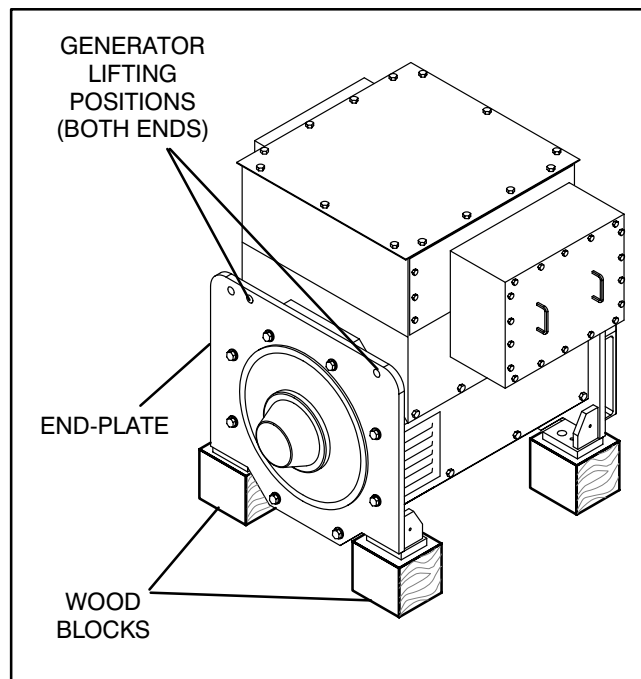

FIGURE 4-11. FRAME 8 LIFTING POSITIONS
7. Attach cables of lifting device to generator lifting points shown in Figure 4-11. (Two lifting points per end-plate).